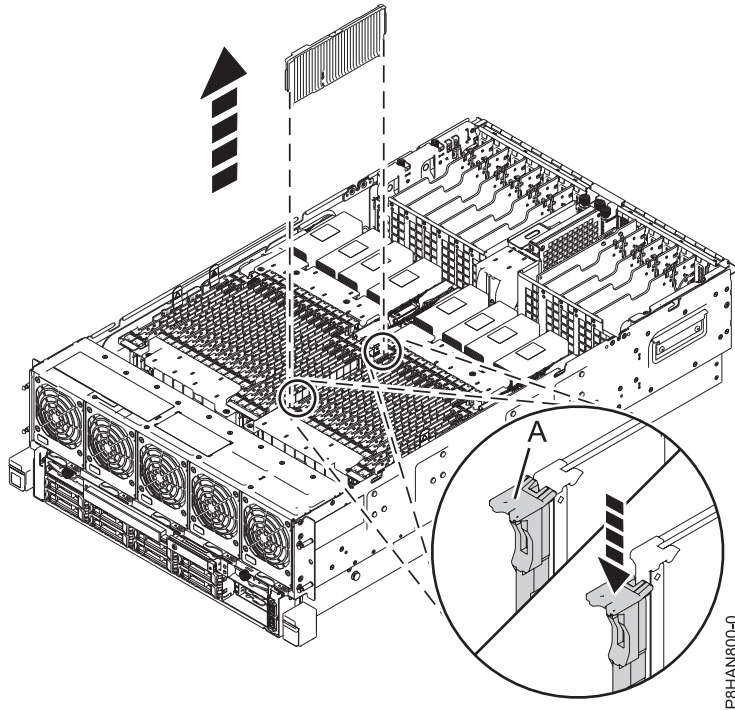

Figure 5. Removing a memory filler from the memory slot in an 8408-44E or 8408-E8E system
- a. To unlock the memory filler from its connector in the slot, push the locking tabs (A) in the direction that is shown in Figure 5 on page 8. The lever action of the tabs forces the memory filler out of the connector.